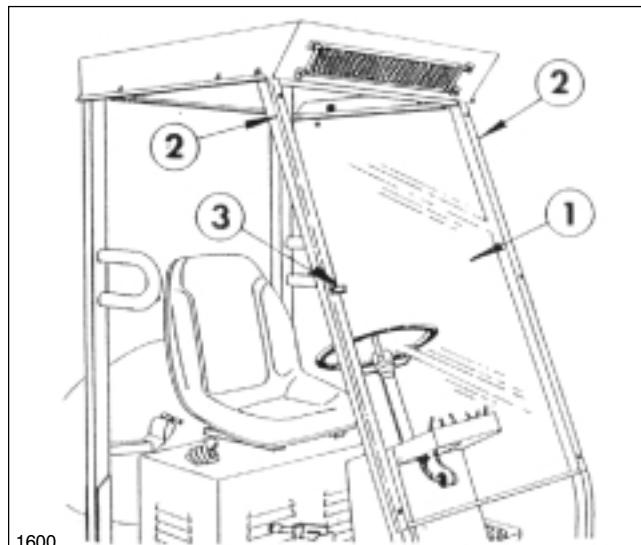

FIG. 5
17. Loosely mount Blower Assembly inside the Enclosure by sliding rear of Blower Assembly over the front of the ROPS Cross Bar and sliding front of Blower outside filter side panels. Slide the Cross Bar forward and start (6) 1/4" flange hd. cap screws. Leave loose. Do not tighten until Front Window is installed.
19. Loosely mount the Front Window to the front of the ROPS using (6) 1/4" x 3/4" flange hd. bolts through the Front Window Clamps and screwing into the ROPS bar. Place the Wiper Stop on the right center mounting bolts before screwing into ROPS bar. See FIG. 5.